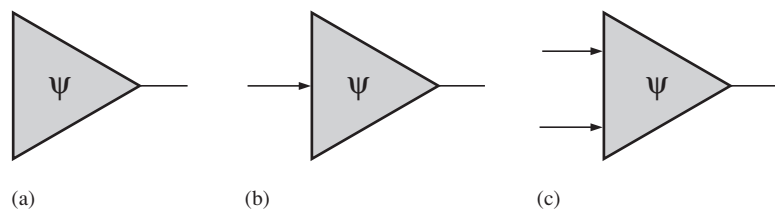

FIGURE 15–50
19. Sketch the V_R waveform for the circuit in Figure 15–51, given the indicated relationship of the input waveforms.